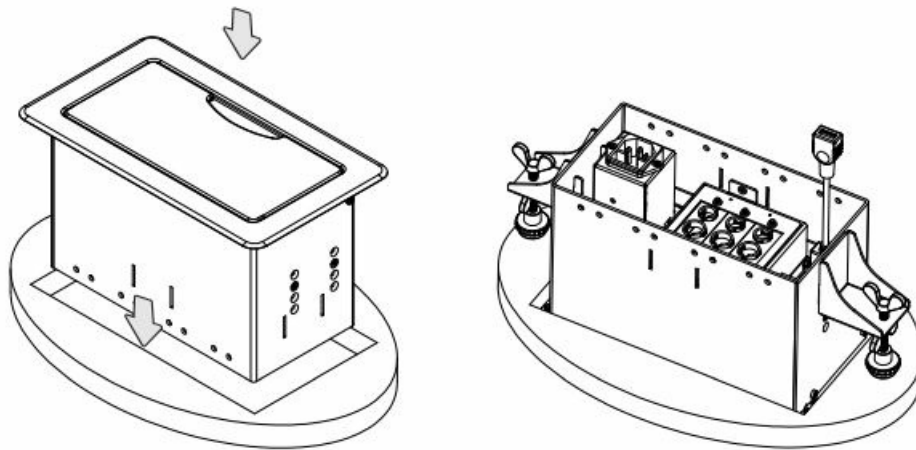

Figure 5: Inserting TBUS-4xl into the Prepared Opening
2. Carefully insert the unit into the prepared opening (see Figure 5).
5. Tighten both mounting butterfly screws upward until they reach the table surface (from underneath). Tighten firmly (see Figure 5).